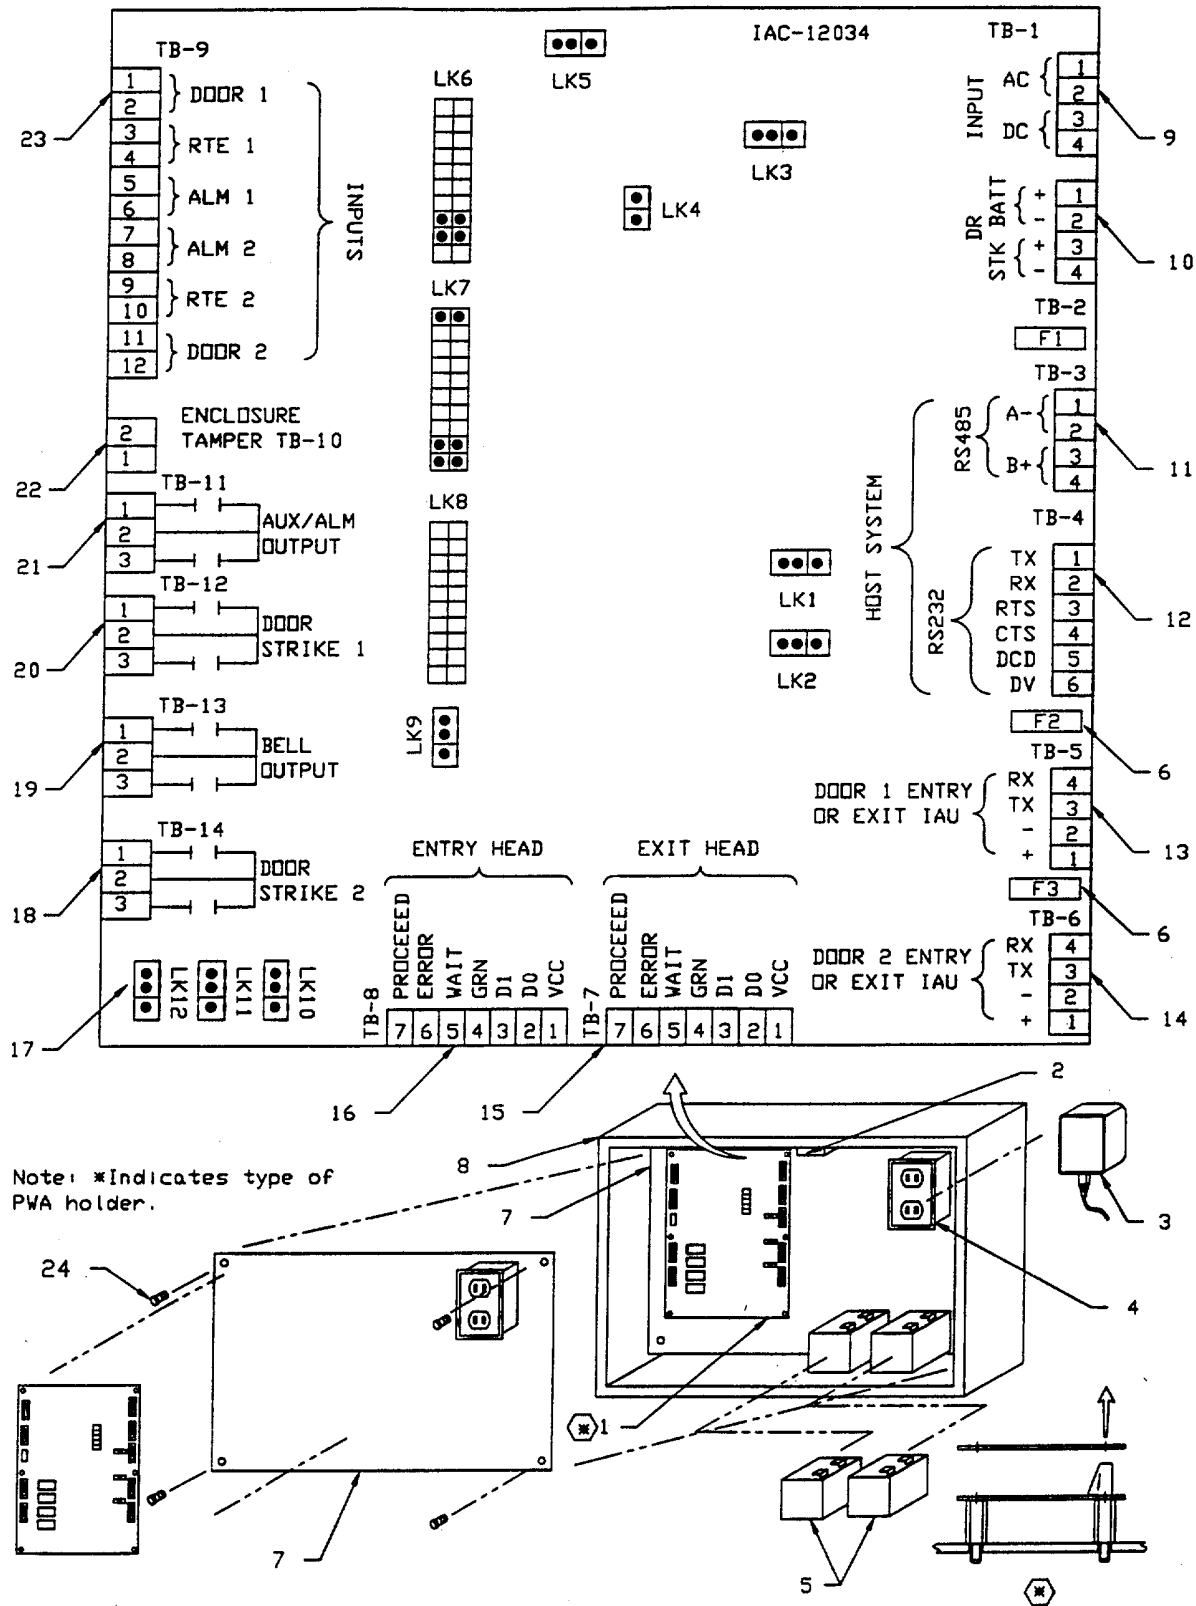

Figure 3-55. Removal and Replacement of intelligent Access Controller Rear Panel and Assemblies
- (1) From Operators console, enter into the RECON mode.
- (2) Select CCTV (F2).
- (3) Select Camera Identification (F1).
- (4) Select camera "1" c/r for "NAME".
- (5) Repeat step #4 for all cameras.
- (6) Finish (F10) out of recon.
**3-104. REPLACE INTELLIGENT ACCESS CONTROLLER REAR PANEL ASSEMBLY. (Figure 3-55).**
- (1) Align rear panel assembly (7) with IAC enclosure standoffs and secure with four bolts (24).
- (2) Install battery (ies) (5) in IAC enclosure and connect positive and negative leads to battery terminals.
- (3) Connect tagged slip on terminal strips to TB1 through TB14.
- (4) Connect ac power cord to power receptacle.
- (5) Secure front access door to IAC enclosure.
**3-106. REPLACE STEP-DOWN TRANSFORMER ASSEMBLY. (Figure 3-55).**
- (1) Connect ac input wires to TB1 (9) pins 1 and 2 on IAC PWA (1).
- (2) Connect ac transformer (3) to IAC power receptacle (4).
- (3) Place front access cover on IAC enclosure and secure it.
**3-107. REPLACE 12 V BATTERY. (Figure 3-55).**